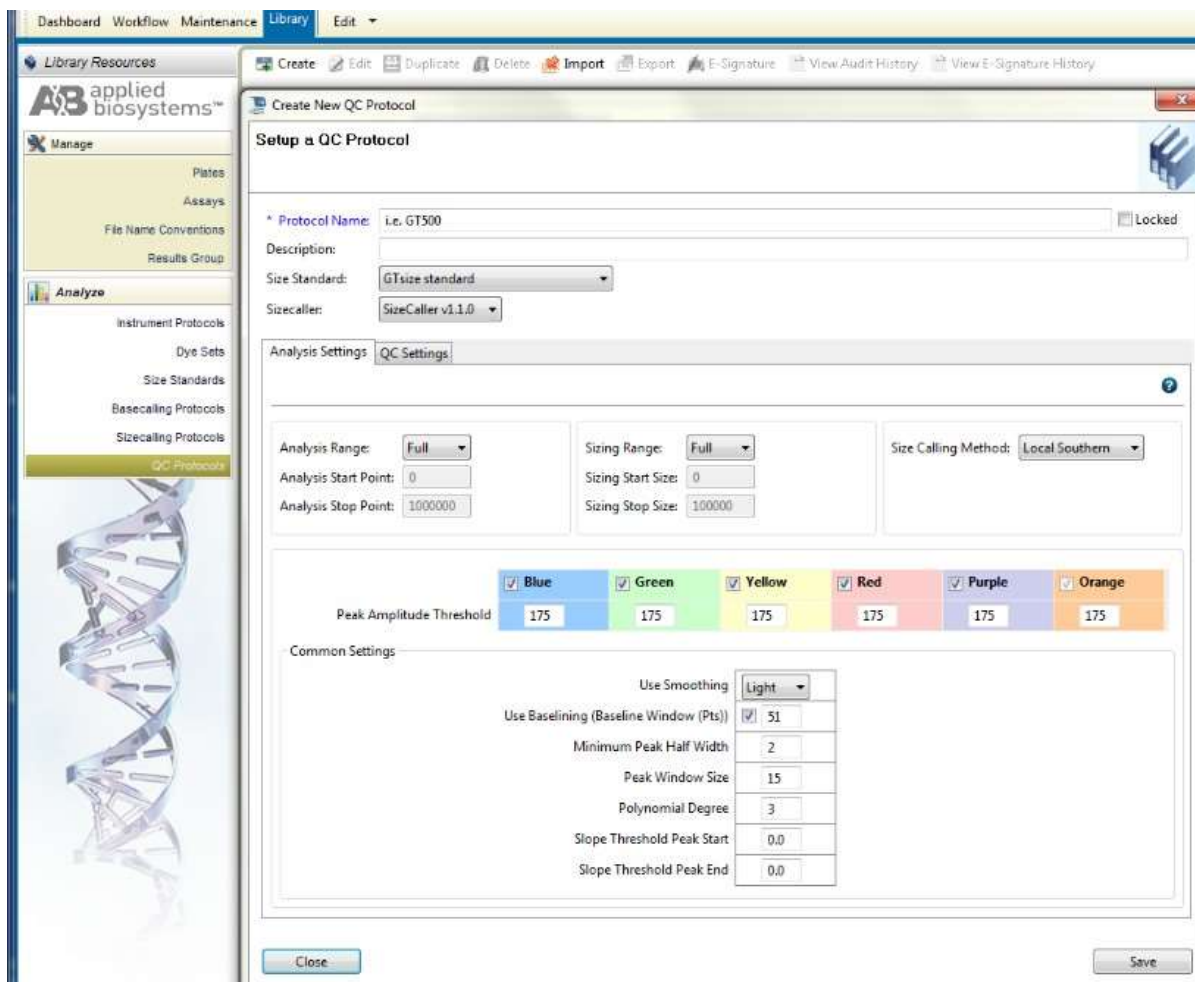

Figure 7. Screenshot for the “Create New QC Protocol” window on Applied Biosystems 3500 Data Collection software.
- c) Select “Create” (Figure 7)